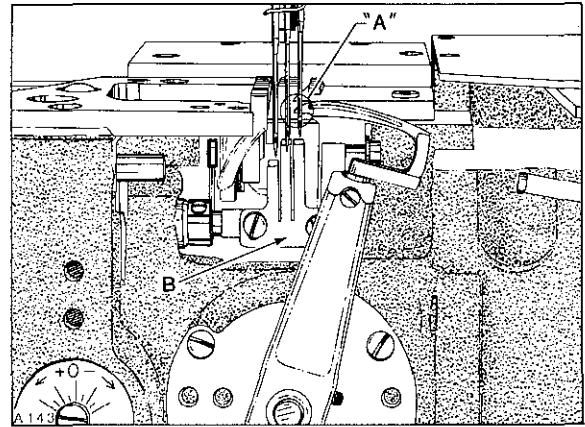

Fig. 13
As the looper travels from right to left, position looper point midway between the right and center needles as shown at ("A", Fig. 13) for 16 GAUGE machines. For 8 and 12 GAUGE machines, position looper point even with the right side of right needle. At this time the rear needle guard (B) should be at EXTREME end of forward travel.